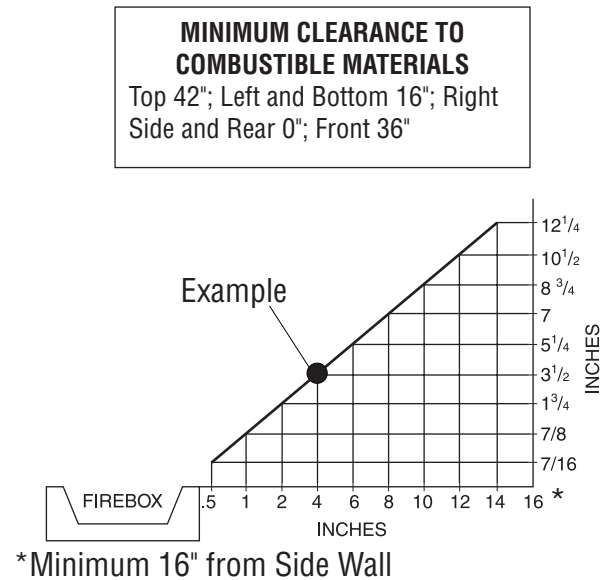

Figure 8 - Minimum Clearance for Combustible to Wall
- where curtains, furniture, clothing or other flammable objects are less than 36" from the front and 42" top of fireplace. For side clearances see *Figure 8, Page 9*
A. Clearances from the side of the fireplace cabinet to any combustible material and wall should follow diagram in Figure 8.
Example: The face of a mantel, bookshelf, etc. is made of combustible material and protrudes 3-1/2" from the wall. This combustible material must be 4" from the side of the fireplace opening (see Figure 8).